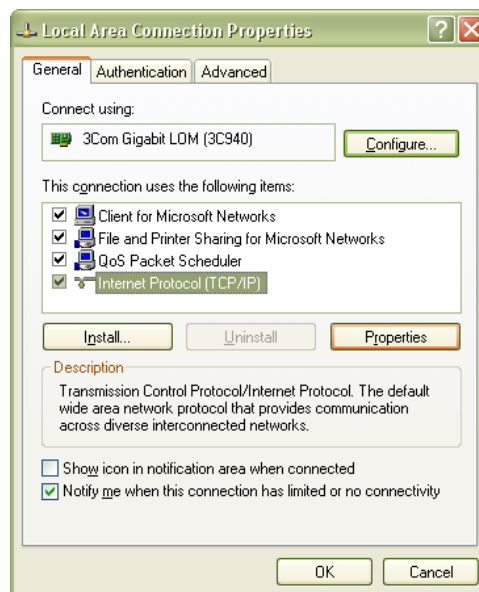

FIGURE 2-15: LOCAL AREA CONNECTION PROPERTIES DIALOG BOX
- 4) Select **Internet Protocol (TCP/IP)**, then click the **Properties** button as shown in Figure 2-15.